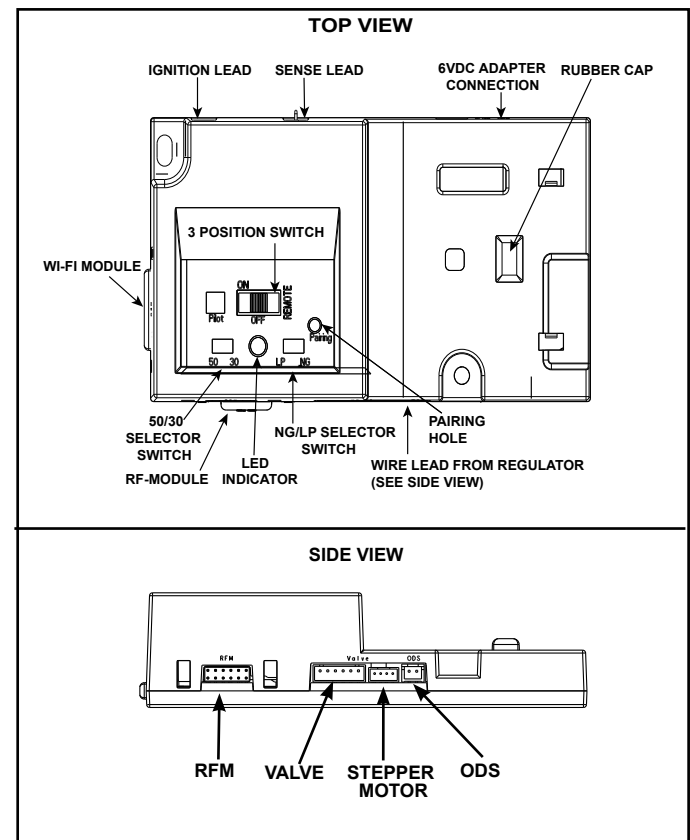

Figure 3.7 IFT-ECM 2.0
1. The Electronic Control Module (IFT2-ECM) has a three-position ON/OFF/REMOTE selector switch that must be set for proper operation. See Figure 3.7. When changing switch positions, it is important to pause in each position for 1-2 seconds.
- Move the 3 position switch to OFF (See Figure 3.7).